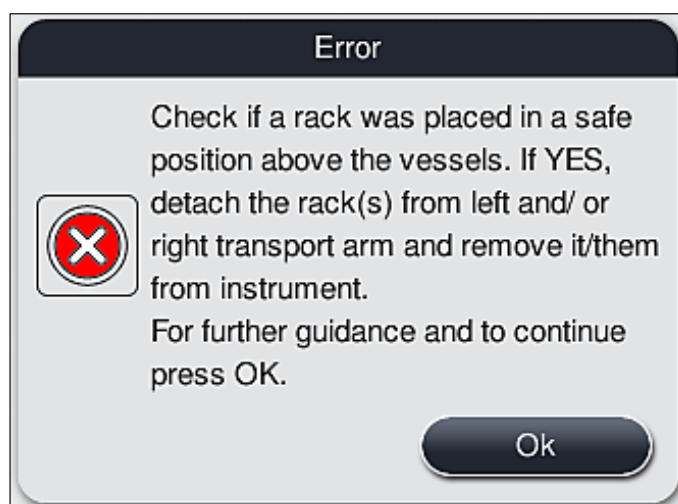
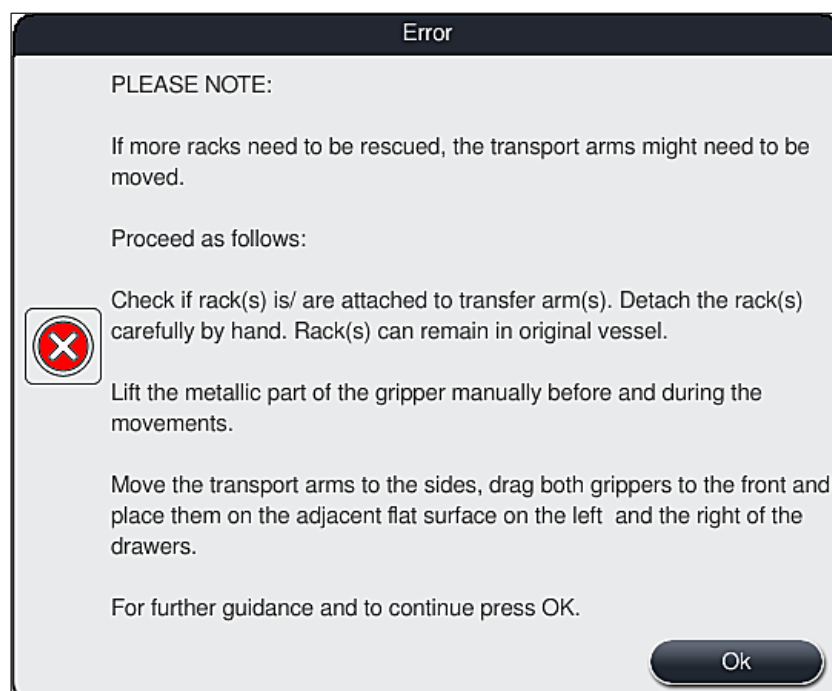

Fig. 108
Fig. 109
2. Following this, this information message prompts the user to check (→ "Fig. 108") whether or not the instrument has placed one or two racks in a secure position between two reagent vessels (→ "Fig. 104").
3. After pressing the **OK** button (→ "Fig. 108"), another information message appears (→ "Fig. 109") that provides the user with instructions regarding the correct procedure for removing the respective racks.